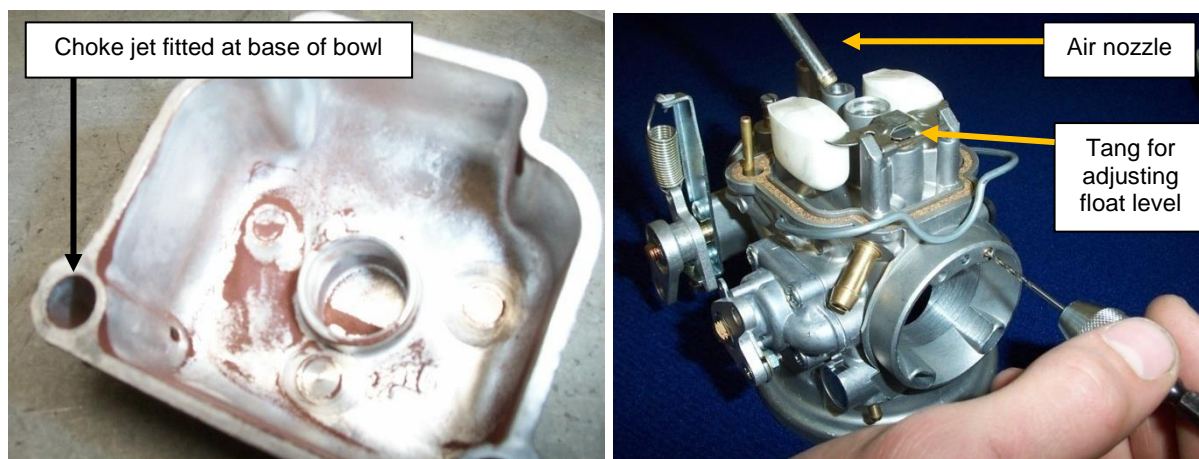

Figure 111 – Carburettor Updates
- To improve cold starting the choke jet may be enlarged. Drilling to 1.2mm is recommended for Australian applications. The choke jet is located in the bowl as shown in Figure 111 (left).
- To improve the engine's idle the idle jet port must be drilled out to 1.6mm. This is done at the factory during assembly but is worth checking at overhaul. Figure 111 (right) shows the drilling being done by hand. Note the air nozzle blowing into the idle jet to force the aluminium shavings from the drill out of the carburettor.
- On initial disassembly, check for contamination like that shown in Figure 111 (left). Contamination like this will be an early indicator for increased wear in the engine and will warn the overhauler to check thoroughly for wear on parts like cylinders.